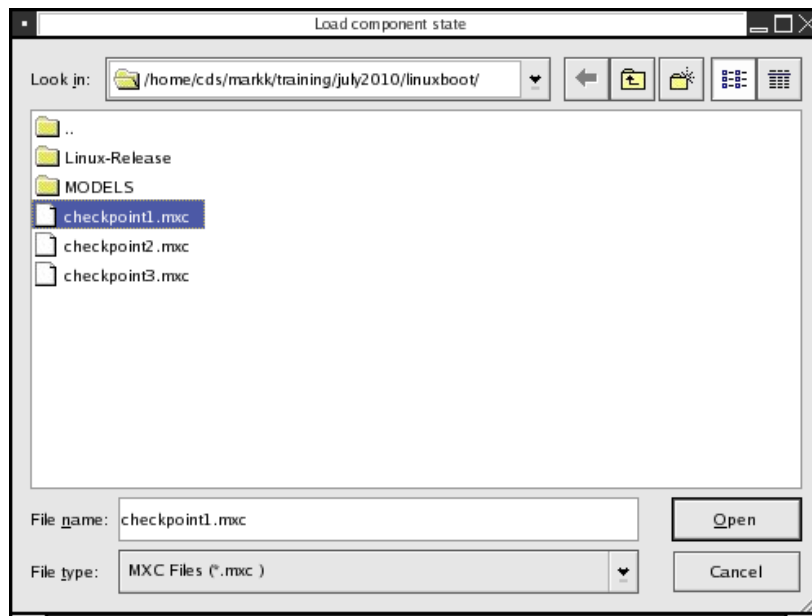

Figure 4-20 Load Component State dialog
3. In the Load component state dialog (Figure 4-20), browse to the checkpoint file you would like to load: